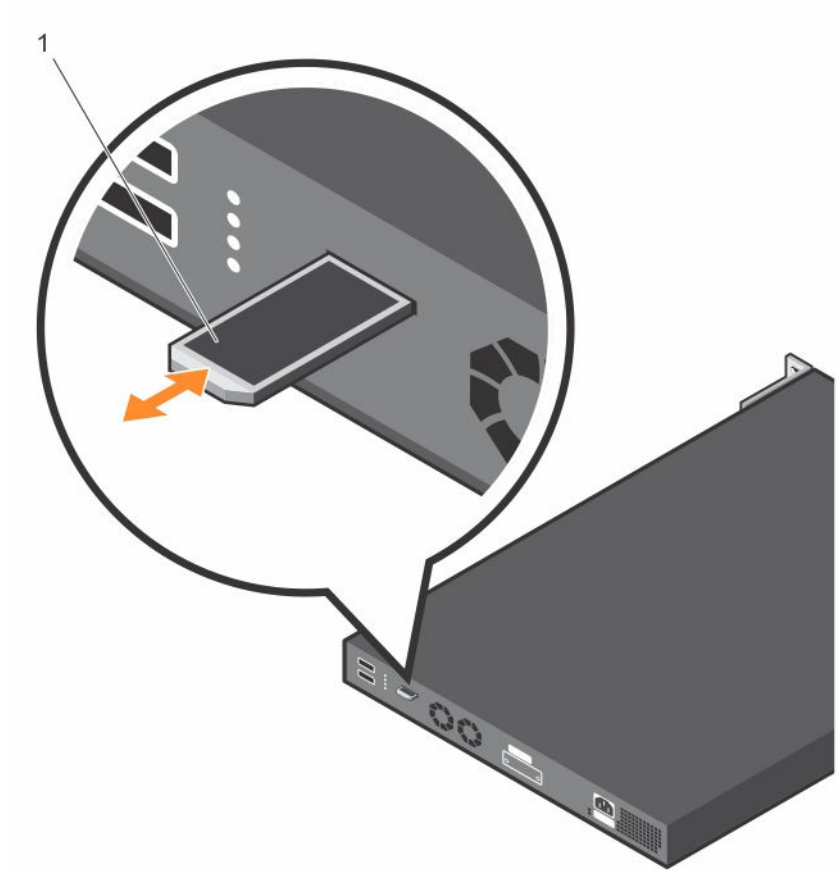

Figure 10. C1048P Service Tag
To view the service tag or express service code on a C1048P, pull out the tag (item 1 in Figure 10) on the upper left side of the back panel.